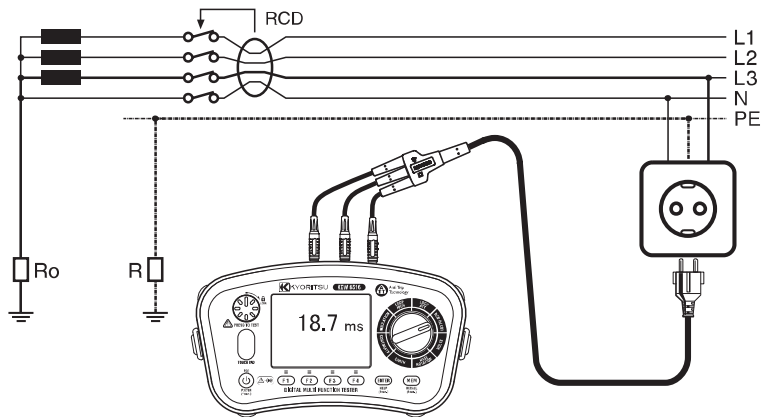

Fig. 11-1
Ground being imperfect in the Fig. 11-1, when R exists, when a fault current flows to R , electric potential occurs. There is a possibility the person contacting in this imperfect ground, it calls the voltage, which it occurs in the human body of this time, called U_c . When with the U_c Test letting flow $I\Delta N$ to the RCD, the U_c is calculated. U_c voltage is calculated based on the Rated Residual Current ($I\Delta N$) with the impedance measured.
(7) Connect the test leads to the circuit to be tested. (Fig. 11-1,11-2, and 11-3)
(8) Wiring Check